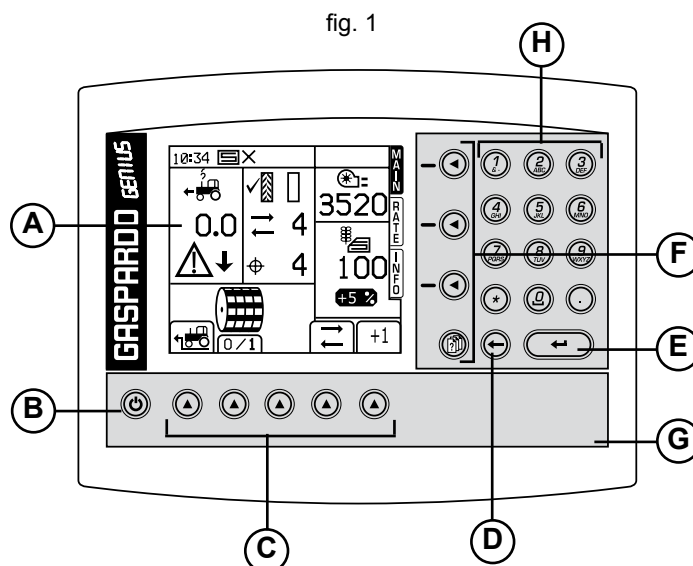

fig. 1
3.1 BESKRIVNING AV KONSOLEN (Fig. 1)